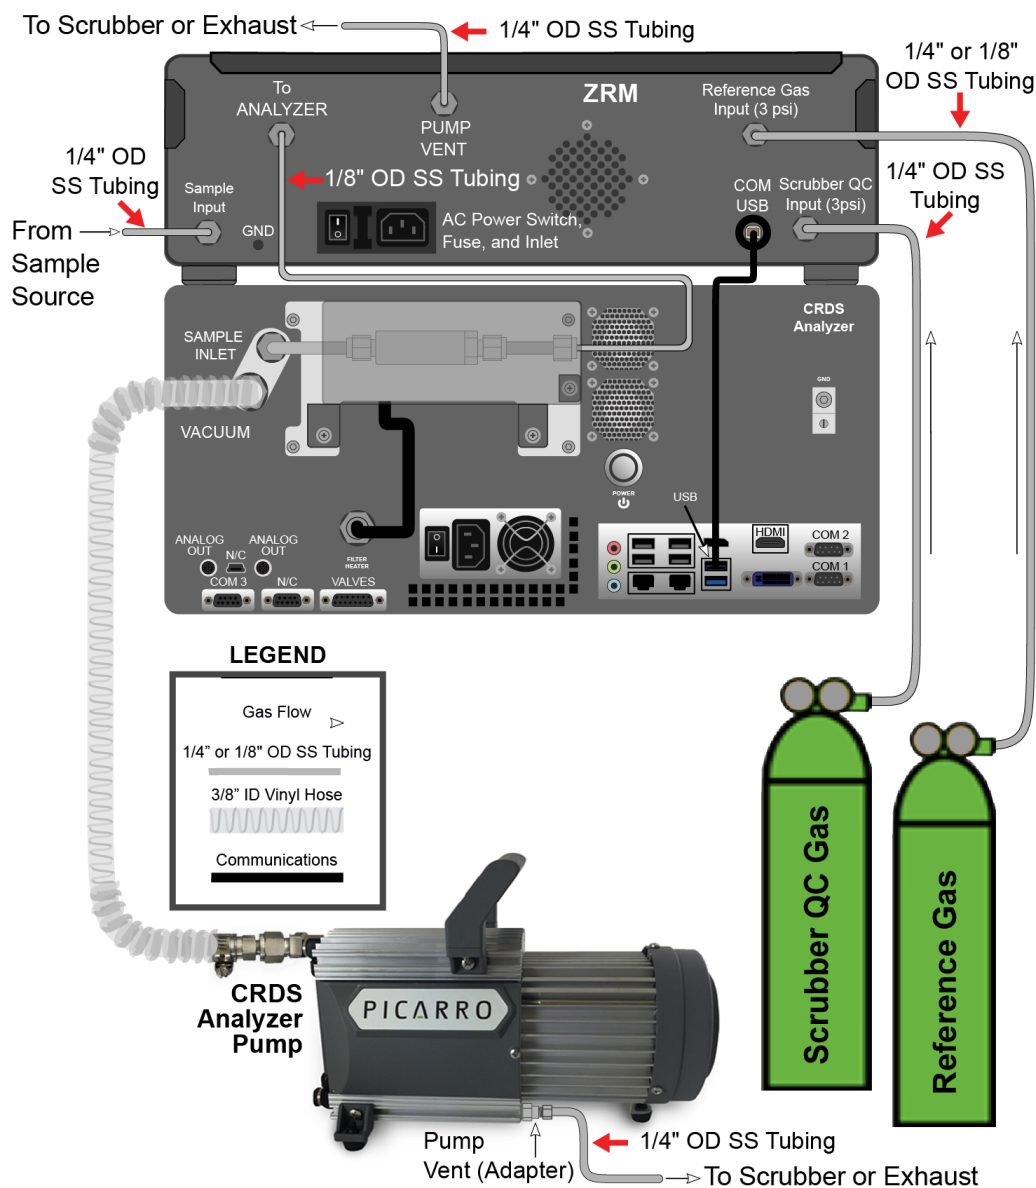

Figure 14: ZRM to Analyzer Connections
5. Follow Figure 14 while making the following connections.